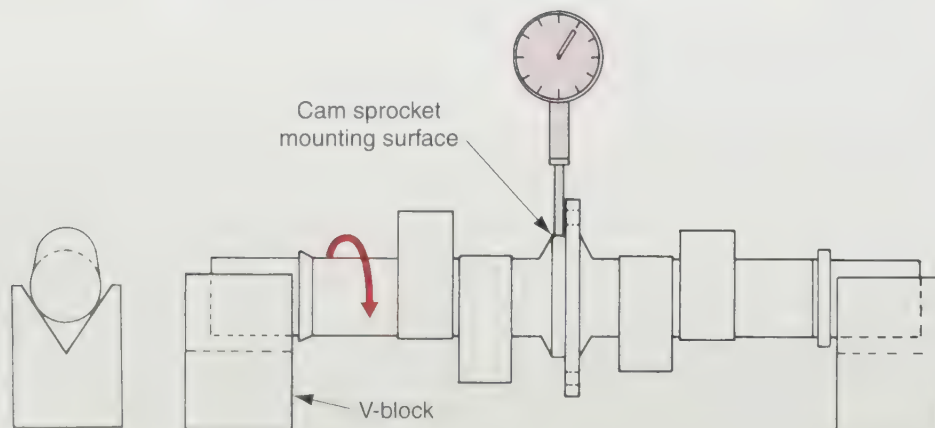

Figure 20-3. Use a dial indicator to detect camshaft runout. Make sure the indicator rides on the cam's machined surfaces.
- Camshaft runout, **Figure 20-3**.